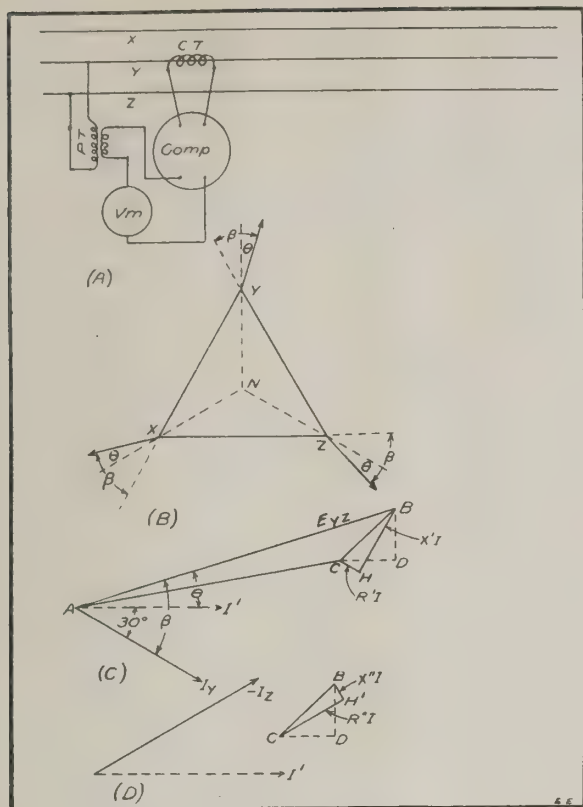

FIG. 3. ARRANGEMENT OF COMPENSATOR ON THREE-PHASE LINE WITH ONE TRANSFORMER.
A method of obtaining compensation on a three-phase line with the use of only one current transformer is illustrated in Fig. 3. The current transformer is connected in one of the legs of the phase from which the potential is taken. By the vector diagram Fig. 3 (b), it may be seen that the current in  $(Y)$  lags behind the  $(YZ)$  voltage by
If the angle CBD were less than 30 degrees compensation could not be obtained as here shown. However, it could be obtained by changing the current transformer from the (Y) to the (Z) leg and making another setting of the compensator. The current in (Z) reversed is 60 degrees ahead of ( $I_y$ ) and 30 degrees ahead of the voltage represented by the vector CD. The compensator then is set at ( $R''$ ) and ( $X''$ ) to give the vector relations shown in Fig. 3 (d).
In this method of line drop compensation, the phase rotation in the three-phase line is to be considered. Suppose that the connections are as illustrated in Fig 3 (a) but that the phase rotation is reversed. This would correspond to interchanging any two phase letters in the diagram of Fig. 3 (b), for instance interchange (X) and (Y). The
current in (Y) would then have the position occupied by ( $I_x$ ) and the (YZ) voltage would have the phase relation represented by the position of the (XZ) vector in the diagram as it stands. The current in (Y) then would lead the (YZ) voltage by an angle of ( $30^\circ - \phi$ ). The compensator current would therefore be 30 degrees ahead of (CD) or 30 degrees ahead of the imaginary current ( $I'$ ) of the vector diagram and the setting of Fig. 3 (d) would be required. If the current transformer were in (Z) and the potential taken off from (YZ) and the phase rotation reversed with respect to that shown in the diagram the setting required would be that of Fig. 3 (c).
The relative merits of the compensator schemes described above may now be considered. None of them gives an exactly averaged compensation for the three different phases where there is an unbalanced load. However, the two current transformer scheme gives a better approximate average than a single current transformer scheme. Suppose that in Fig. 3 a single-phase load is added on the (XZ) phase to the balanced three-phase load, thus unbalancing the circuit. If this single-phase load has the same power factor as the balanced three-phase load, the currents in the (X) and (Z) legs will be increased without affecting the current in (Y) or the current in the compensator. In such a case it is readily seen that the compensator might